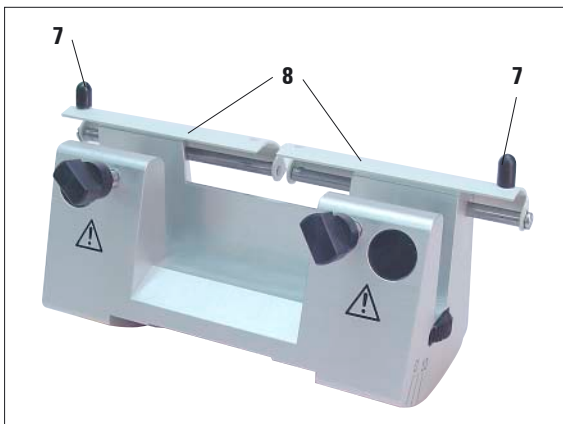

Fig. 5
The knife guard (8) of the knife holder N/NZ can be easily positioned via the two buttons (7) (Fig. 5).